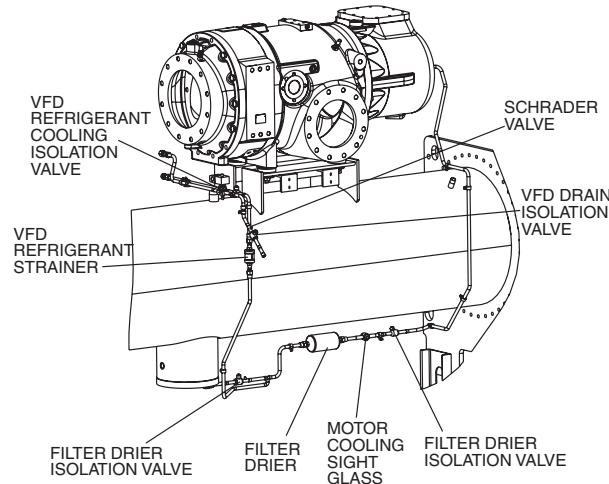

Fig. 22 — VFD Refrigerant Isolation Valves (Q,R Compressors Only)
- For Q and R compressors, close the 2 filter drier isolation valves (Fig. 22) and the 2 VFD isolation valves. Isolate the refrigerant charge into the condenser to prevent a refrigerant leak if one of the motor terminals is accidentally damaged during VFD removal or installation. For Q and R compressors, evacuate the VFD coldplate through the Schrader valve (Fig. 22) on the VFD drain isolation valve.